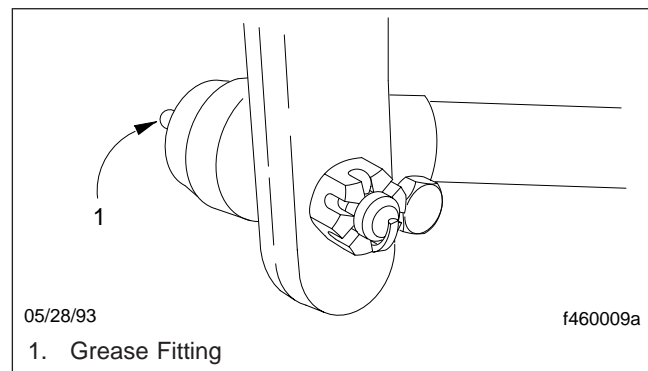
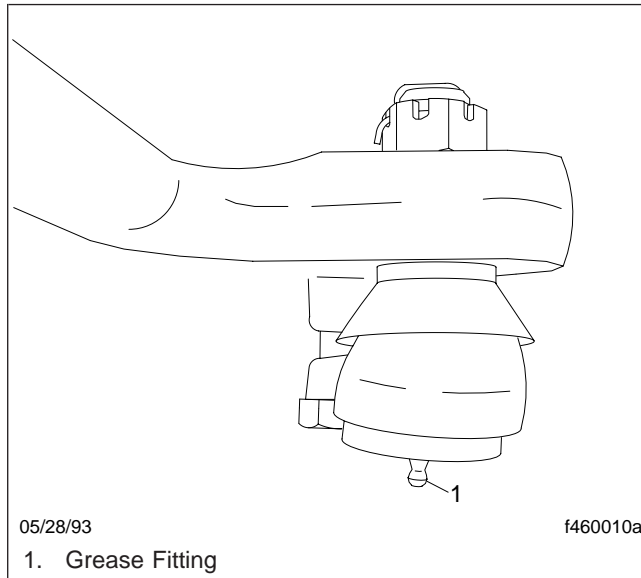
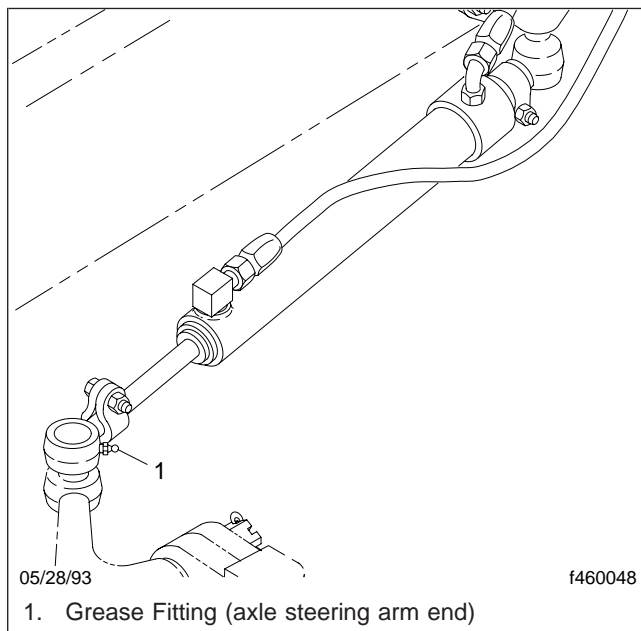

Fig. 5, Drag Link (pitman arm end)
Fig. 6, Drag Link (axle steering arm end)
Fig. 7, Power Steering Cylinder
1. Using a clean rag, wipe all dirt from both drag link grease fittings, and if so equipped, both power steering cylinder grease fittings. See Fig. 5, Fig. 6, and Fig. 7.